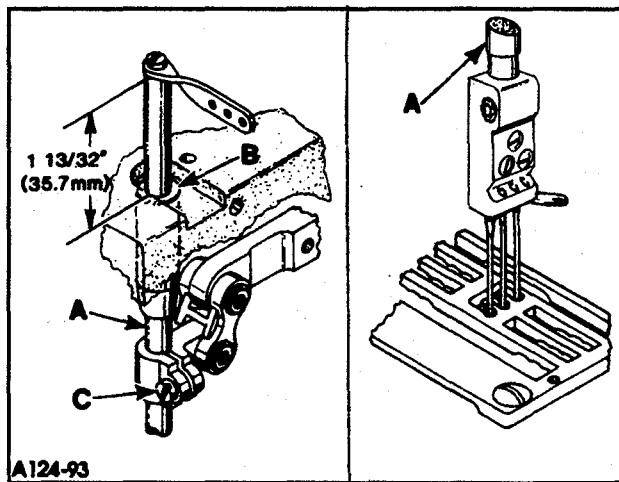
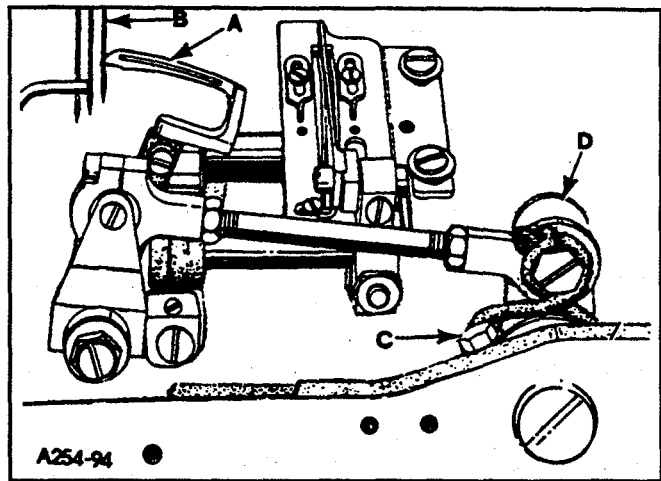
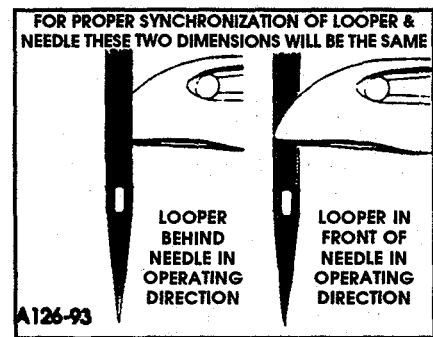

FIG. 4
FIG. 6
FIG. 7
Insert a new set of needles. With needle bar (A, Fig. 4) at top of its stroke, check to ensure an approximate setting of  $1 \frac{13}{32}$ " (35.7mm) from top of needle bar to top of needle bar bushing (B). Adjustment can be made by loosening clamp screw (C) and moving needle bar up or down, retighten screw (C) TEMPORARILY. Turn handwheel to bring needle bar down to ensure that needles center in needle holes of throat plate as shown in Fig. 4. Adjustment can be made by loosening screw (C) slightly, allowing needle bar to be turned as required, being careful not to change the temporary height setting. Tighten clamp screw (C). Re-check temporary height setting.
Insert looper into the looper rocker, pushing it all the way down and tighten screw against flat on shank of looper. Turn handwheel in the operating direction until the point of the looper (A, Fig. 6) moving to the left, is even with the left side of the right needle (B). Note the height of the eye of the needle with respect to the looper point. (See Fig. 7). Turn the handwheel in the reverse direction until the point of the looper again moving to the left, is even with the left side of right needle (See Fig. 7). If the height of the eye of the needle with respect to the looper point are the same, looper and needle motions are synchronized - a variation of .005" (.127mm) is allowable.
Turn handwheel in operating direction until point of looper is flush with the left side of left needle. Final setting is 3/64" (1.2mm) between top of needle's eye and bottom surface of looper (See Fig. 7). If adjustment is required, loosen screw (C, Fig. 4) move needle bar CAREFULLY up or down, not to disturb alignment of same. Retighten screw (C) and check to ensure that the needles center in needle holes of throat plate.